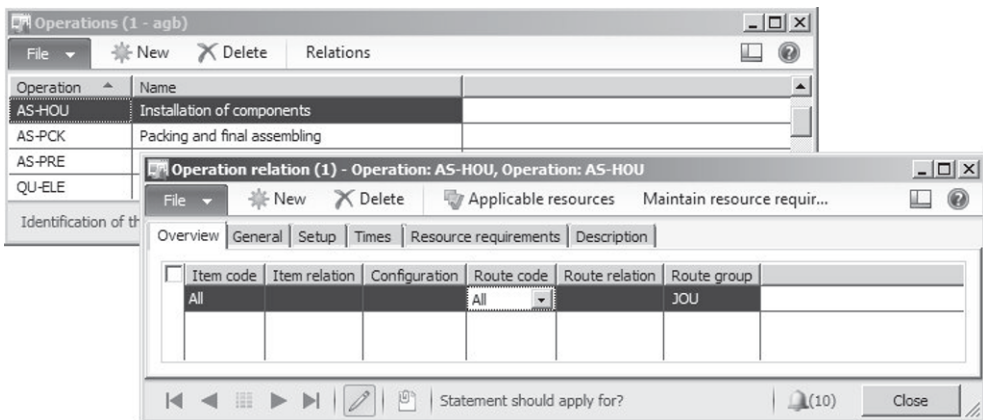

Figure 5-13: Managing general operation relations for an operation
- **General** – For entering operation details at a general level, select the option “All” in the columns *Item code* and *Route code* on the tab *Overview* of the operation relations form (see Figure 5-13).